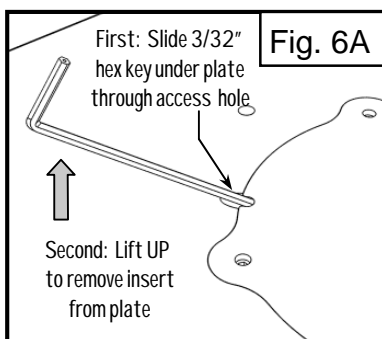

Fig. 5 Install Magna-LOCK ring insert
Orient the ring insert relative to the router plate as shown in **Fig. 5** and **Fig. 6**, then lower into the plate recess. The (4) rare earth magnets are extremely powerful, and the ring insert will SNAP into place.